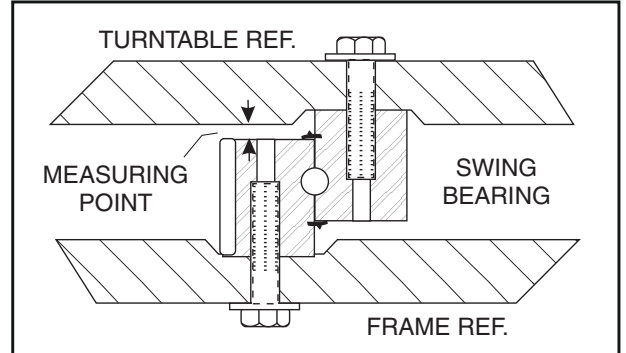
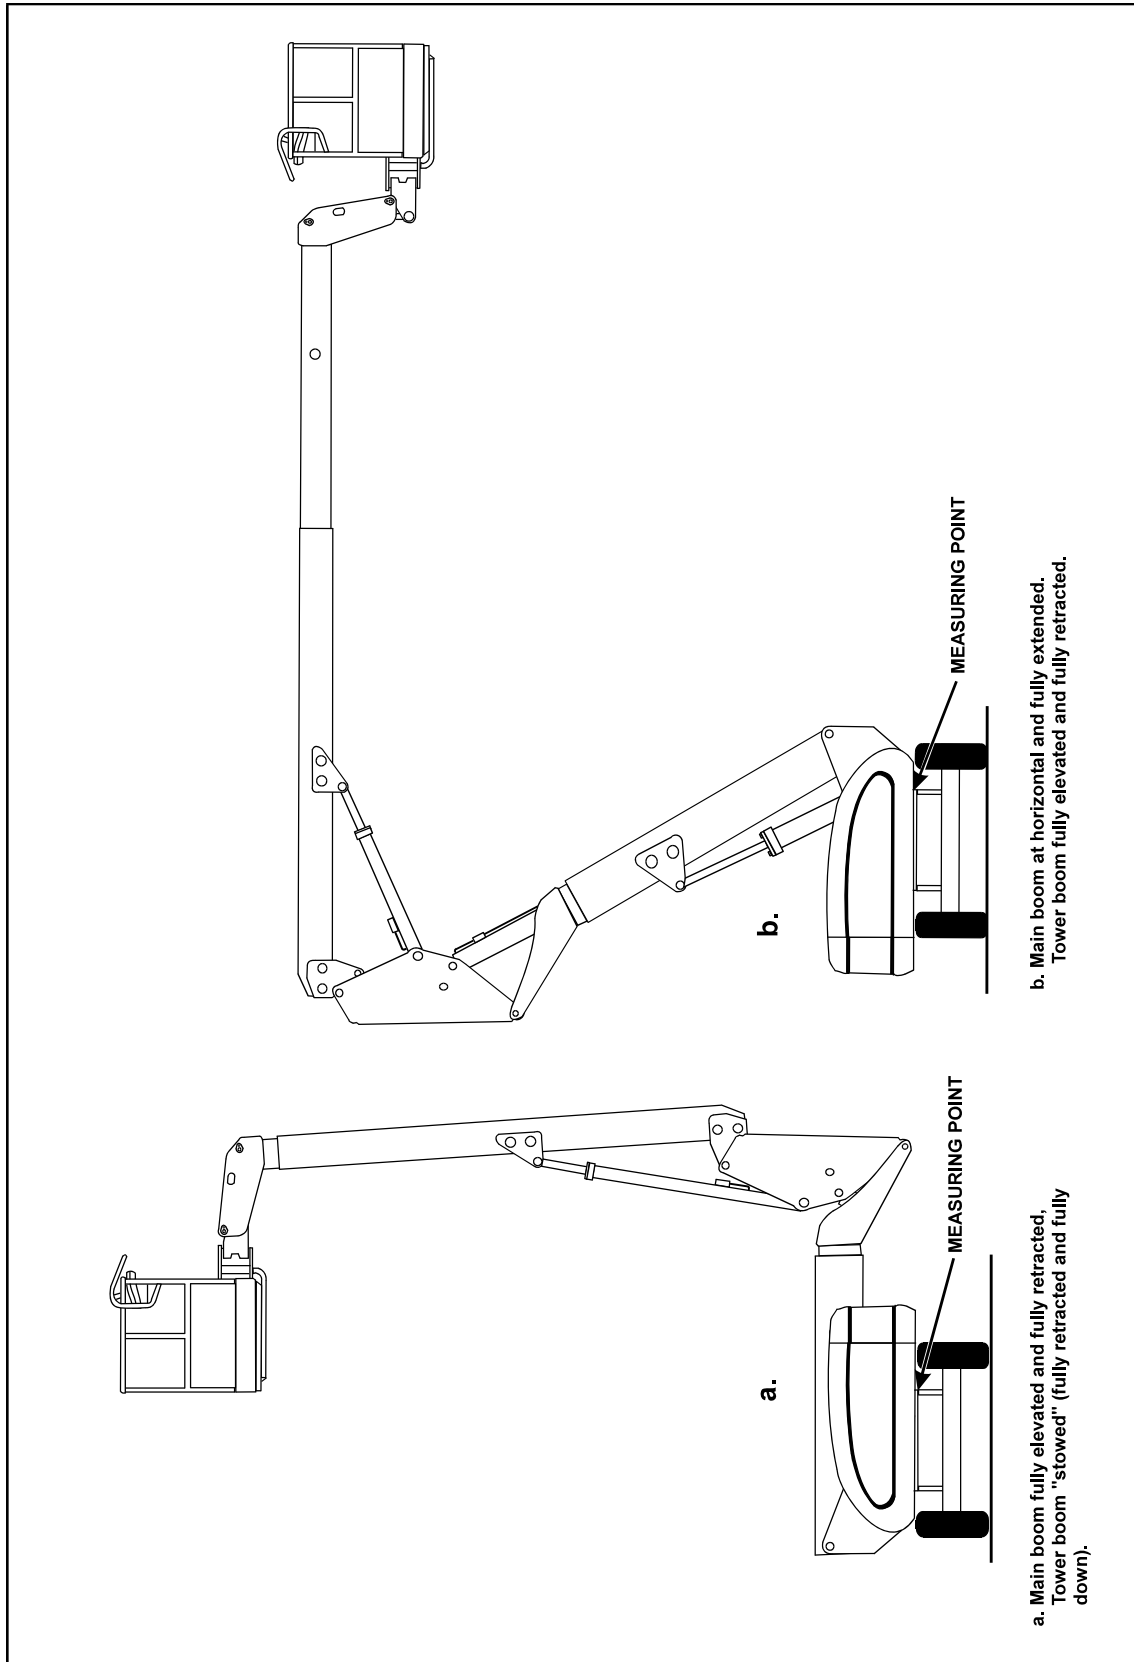
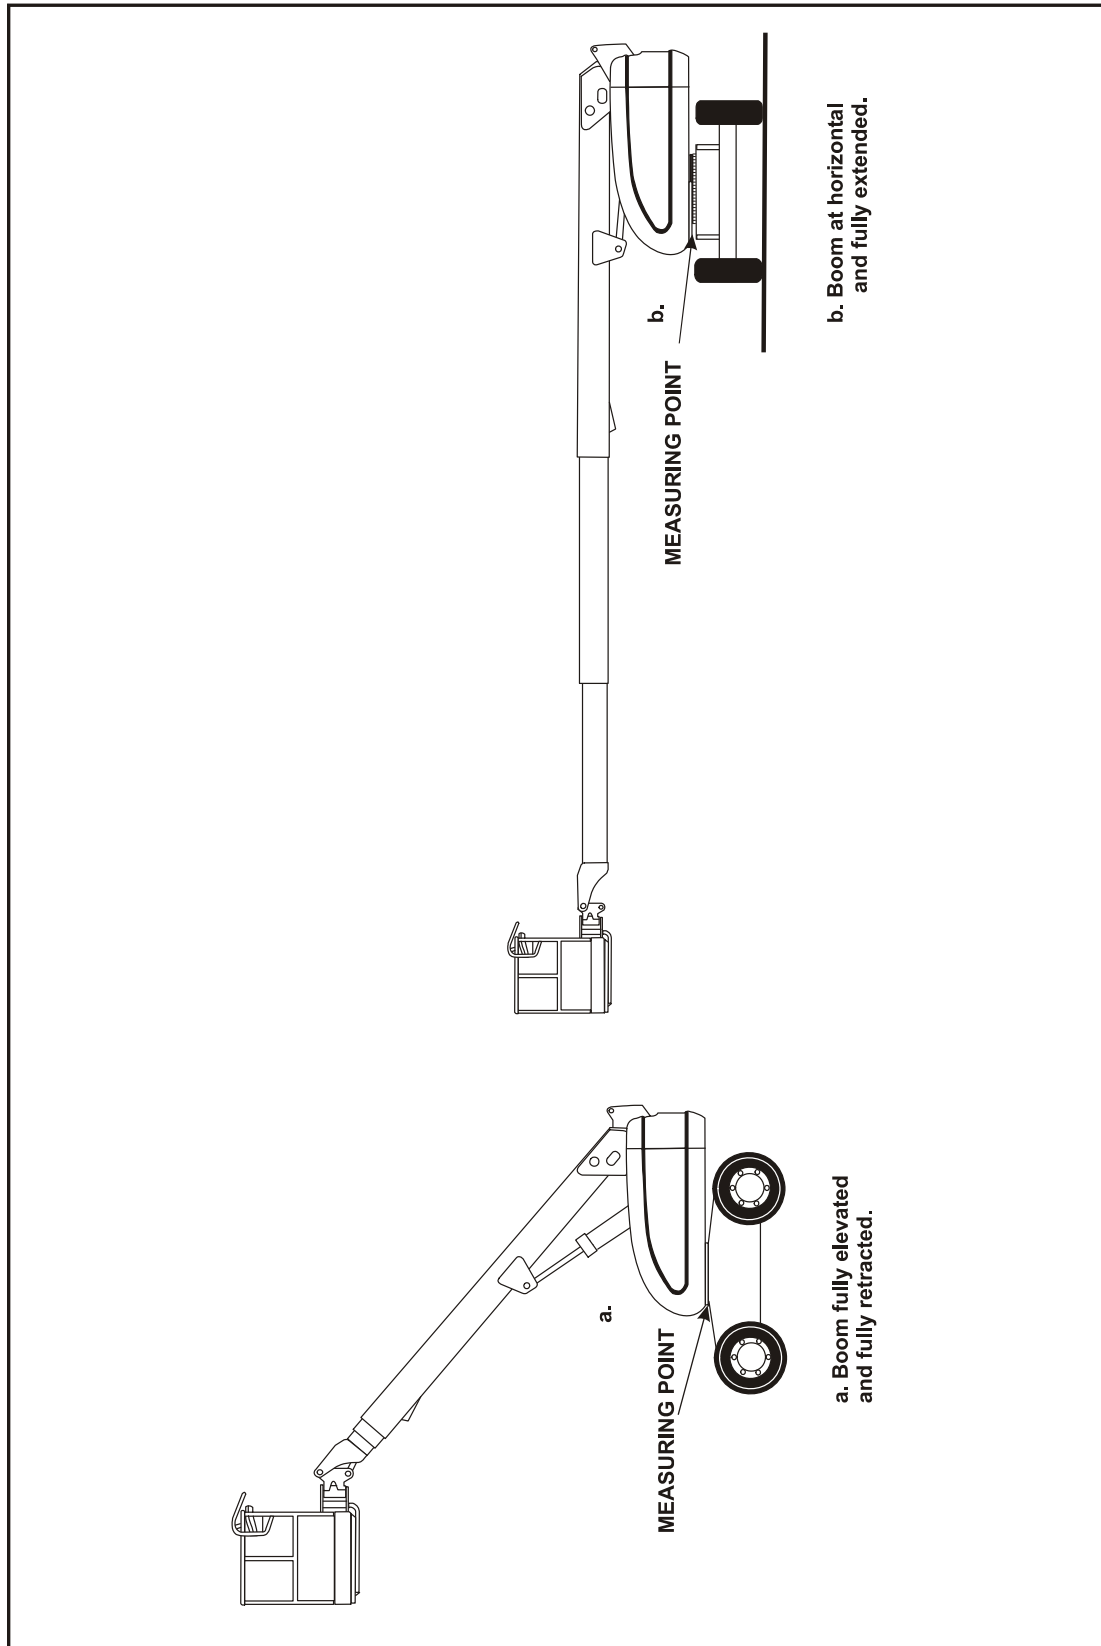

Figure 3-27. Swing Bearing Tolerance Measuring Point
Figure 3-28. Swing Bearing Tolerance Boom Placement (A Models)
Figure 3-29. Swing Bearing Tolerance Boom Placement (S Models)
1. From the underside of the machine, at rear center, with the boom fully elevated and fully retracted, as shown in (Figure 3-29., Swing Bearing Tolerance Boom Placement (S Models) and Figure 3-28., Swing Bearing Tolerance Boom Placement (A Models), using a magnetic base dial indicator, measure and record the distance between the swing bearing and turntable. (See Figure 3-27., Swing Bearing Tolerance Measuring Point)
2. At the same point, with the boom at horizontal and fully extended, and the tower boom fully elevated as shown in Figure 3-29., Swing Bearing Tolerance Boom Placement (S Models) and Figure 3-28., Swing Bearing Tolerance Boom Placement (A Models) - Swing Bearing Tolerance Boom Placement B, using a magnetic base dial indicator, measure and record the distance between the swing bearing and turntable. (See Figure 3-27., Swing Bearing Tolerance Measuring Point)